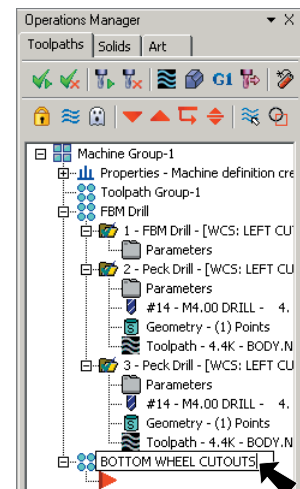

Fig. 16
Step 3. Rename Toolpath Group 2 to **BOTTOM WHEEL CUTOUTS**, **Fig. 16**.